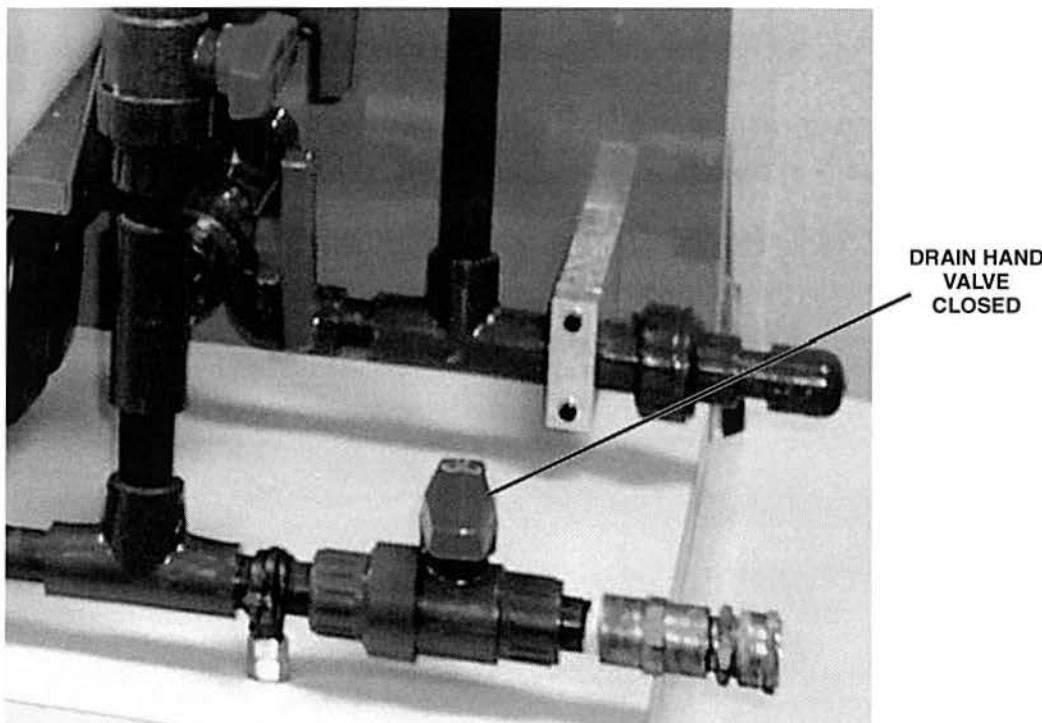

Figure 22. Drain Hand Valve
- A. Close the drain hand valve shown in figure 22.